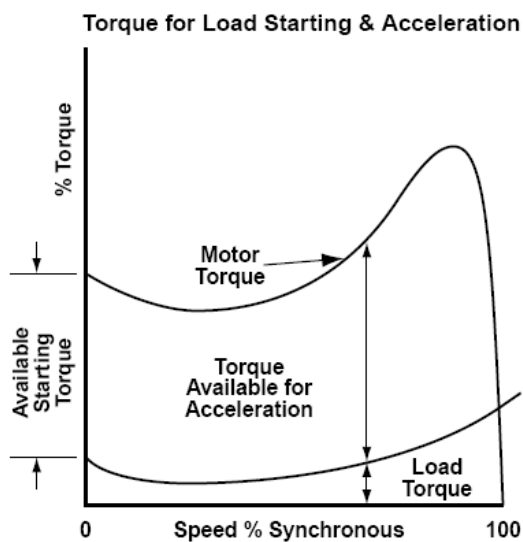

Figure 31
- Locked-rotor torque (also known as Starting Torque): The torque a motor exerts at zero speed. The locked-rotor torque must be greater than the mechanical breakaway torque to allow the shaft to rotate (to start the motor). Refer to **Figure 31**.